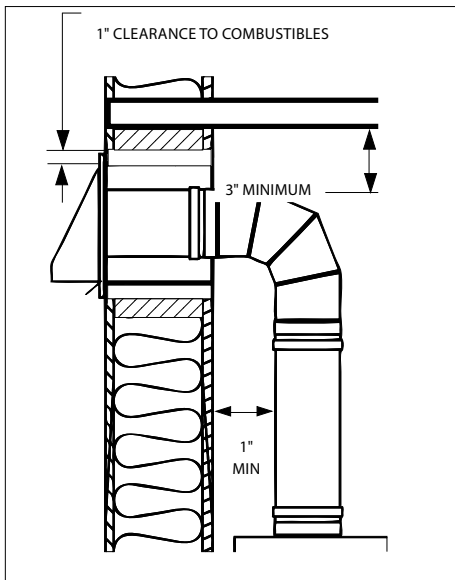

Figure 17
- Proper clearances to combustibles must be maintained over the entire length of the system (refer to **Figure 17**).